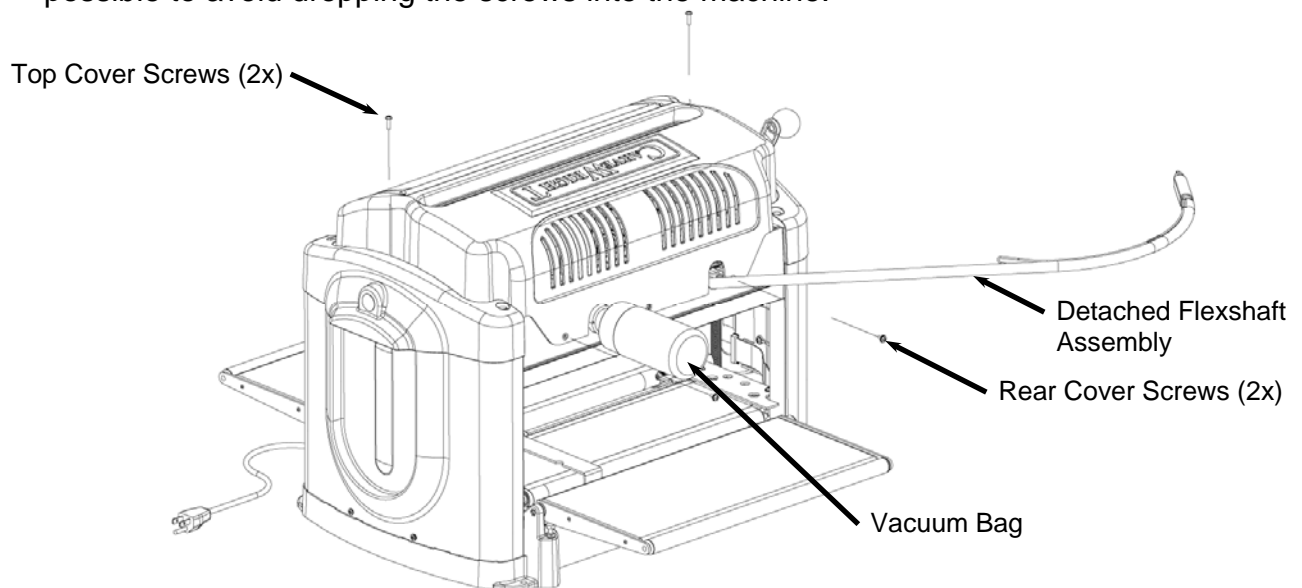

FIGURE 4: EXPLODED VIEW OF THE COVER SCREWS
4. **Remove the screws securing the cover.** Remove the four cover screws as shown in Figure 4 with the #2 Phillips screwdriver. Use a magnetic tipped screwdriver if possible to avoid dropping the screws into the machine.
- f. Replace the four screws as shown in Figure 4. The two long screws go in the vertical locations.